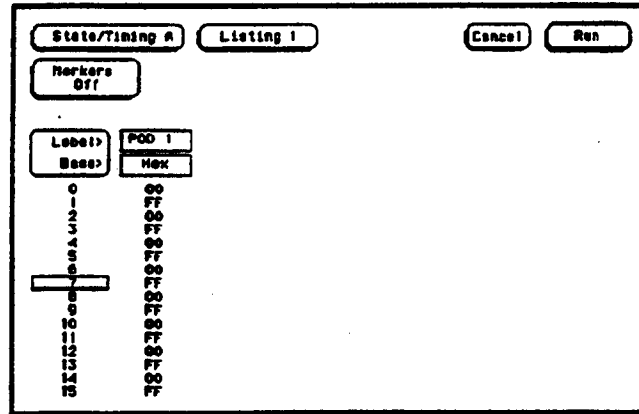

Figure 3-24. Listing Screen
6. Touch Run. The State Listing screen will be displayed and should list alternating F's and 0's as shown in figure 3-24.